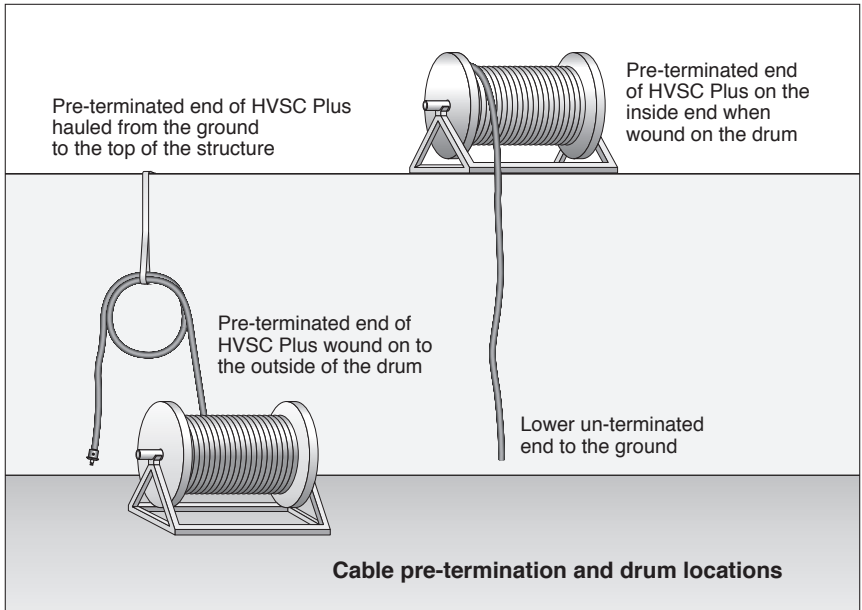

Figure 7.
- Place the HVSC Plus downconductor cable drum close to where it is to be installed [Figure 7]